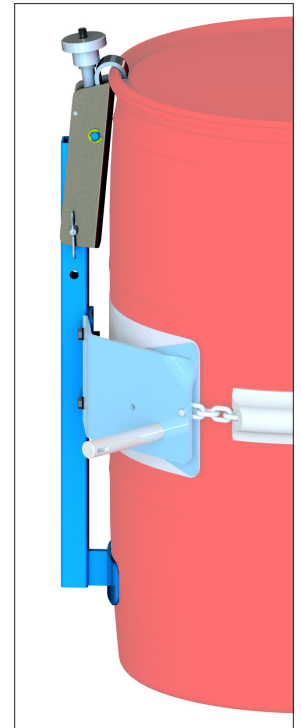

Figure 2.2
2. **Top Rim Clamp Kit # 4560BM-P** to handle a RIMMED plastic drum (figure 2.2). Install the Top Rim Clamp Kit to handle a RIMMED plastic, steel or fiber drum with suitable top rim.